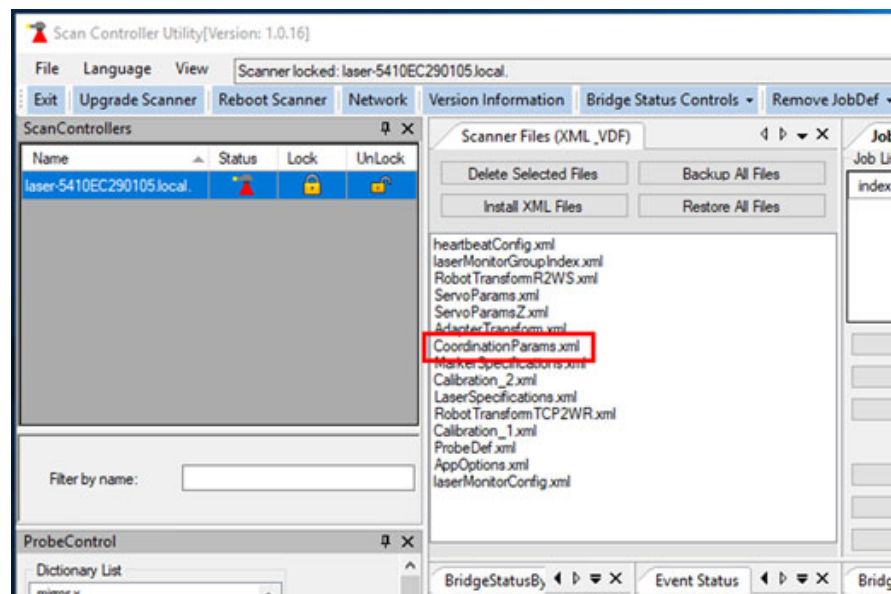

Figure 229: CoordinationParams.XML
9. Reconnect to the Scan Controller and verify the file was uploaded. See Figure 229 (below).